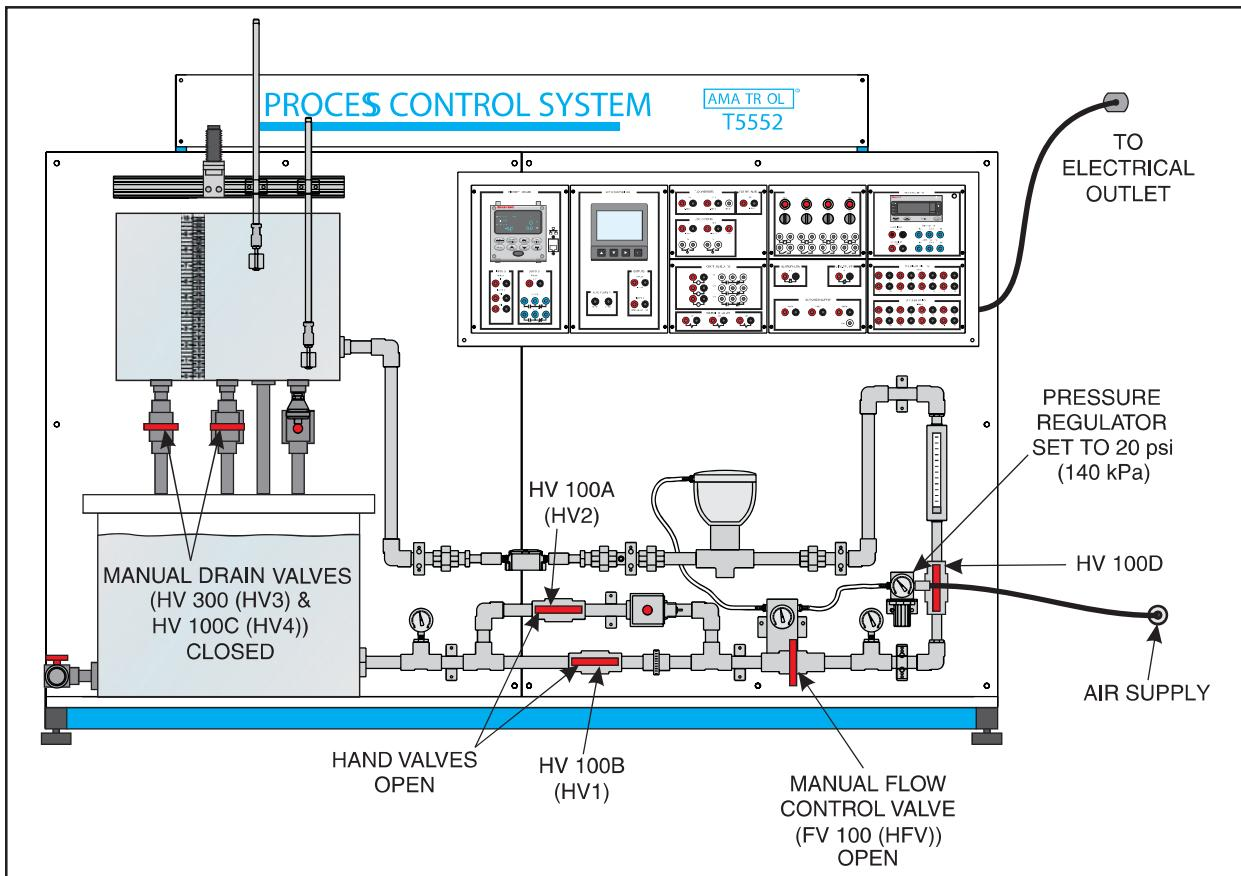

Figure 5-1. T5552 Setup for Closed Loop Level Control
- 2. Perform the following substeps to set up the T5552, as shown in figure 5-1.